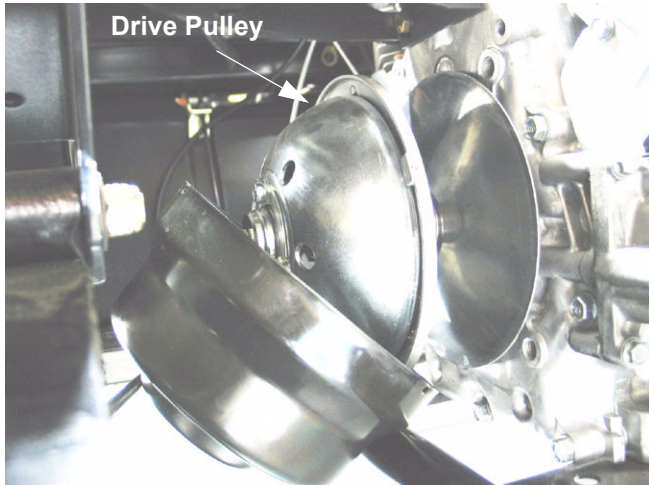

Figure 6.6
- 6.6. Slide the cover off of the driving pulley. There is not enough clearance to remove the driving pulley with the cover in place. See Figure 6.6.